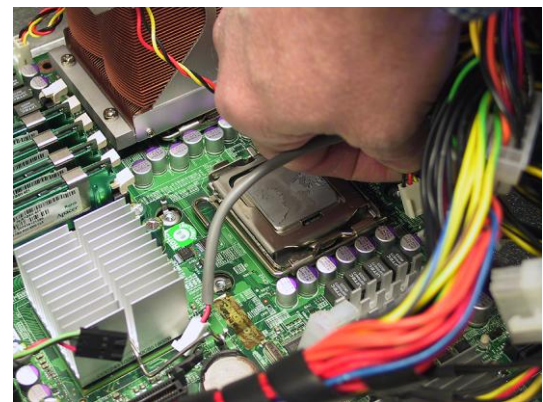

Figure 5-82
- 4) Each fan has its own power connector that is attached to the main motherboard. Disconnect the power connector associated with the failed fan (Figure 5-82).